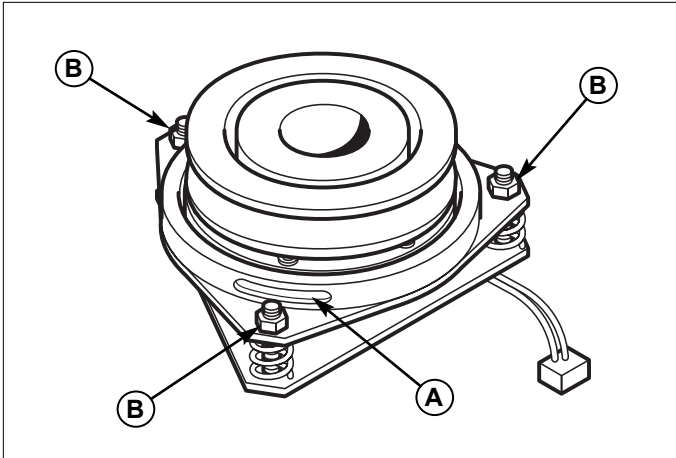

Figure 33. PTO Clutch Adjustment
2. See Figure 33. Note the position of the 3 adjustment windows (A) in the side of the brake plate and the nylock adjustment nuts (B).
4. Alternately tighten the adjustment nuts (B, Figure 33) until the rotor face and armature face just contacts the gauge.